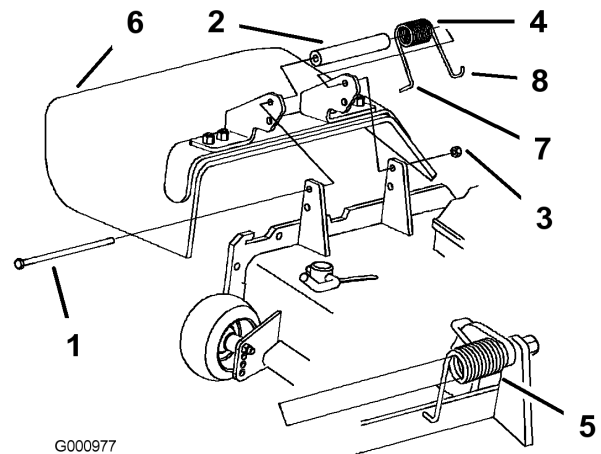

Figure 69
1. Remove the locknut, bolt, spring and spacer holding the deflector to the pivot brackets (Figure 69). Remove the damaged or worn grass deflector.
Note: Make sure the L end of the spring is installed behind the deck edge before installing the bolt as shown in Figure 69.
3. Install the bolt and nut. Place the J hook end of the spring around the grass deflector (Figure 69).